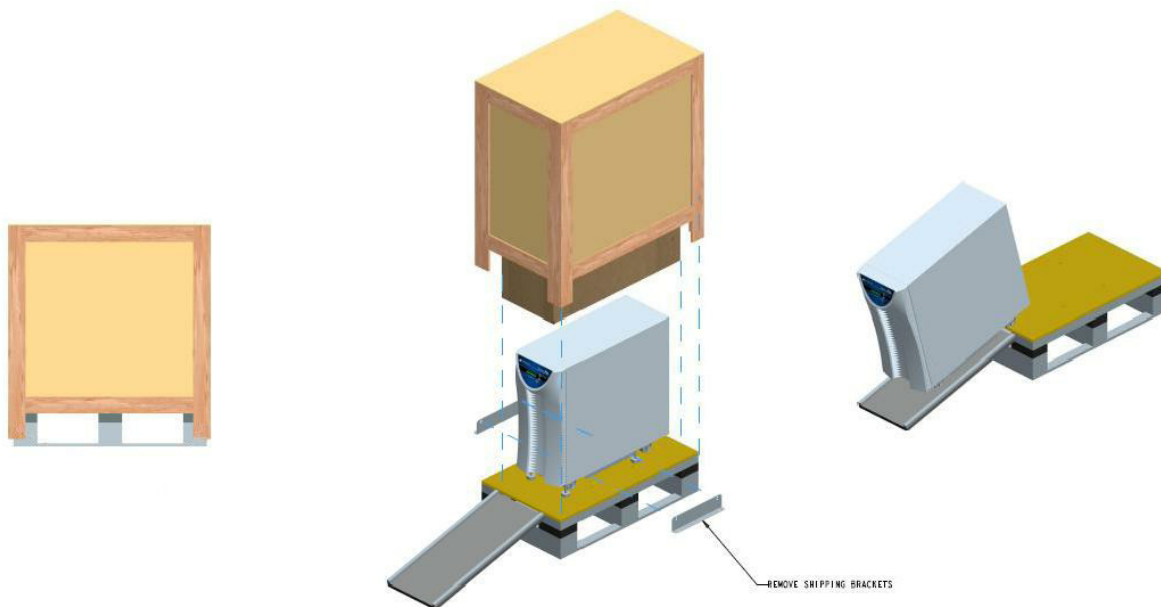

Figure 3-2
After the equipment is delivered to the installation site, the UPS should be carefully unpacked from the shipping container. Use Figure 3-2 on the next page along with the accompanying un-packaging instructions to remove the UPS from the shipping container. Check the items you have received against the shipping list to ensure you have received all necessary items. Carefully inspect the shipment for any hidden damage. If damage is noted, please contact the freight carrier and request an inspection of the shipping container.
Unpacking the UPS requires simple tools such as a screwdriver and an adjustable wrench. To remove the UPS from the shipping container and packing materials, follow these simple steps while referring to Figures 3-2 below.
- 8) Attach the ramp as shown in Figure 3-2. **CAUTION: The lip of the ramp MUST lock into position under top surface of pallet for SAFETY.** With the help from an assistant, carefully roll the UPS off the pallet and down the ramp to the floor of your facility. The UPS may now be easily moved on its casters to the installation location.